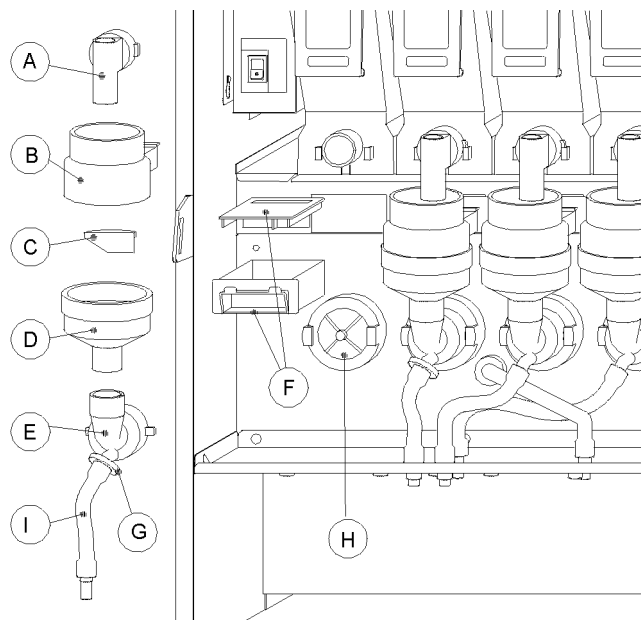

Fig. 4
**Before disinfection, all solid residue and product films must be mechanically removed from the mixer components (see Figure 4), using a brush or similar implements, if necessary.**